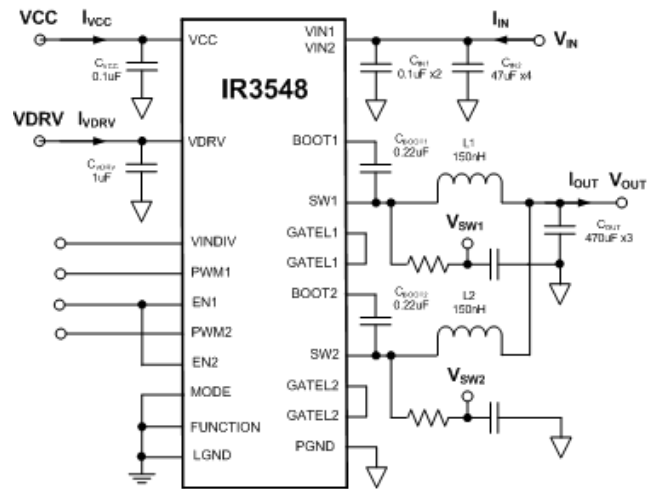

Figure 34: IR3548 Power Loss Measurement
Circuit of Figure 34,  $V_{IN}=12V$ ,  $V_{OUT}=1.2V$ ,  $f_{SW} = 400kHz$ ,  $L=150nH$  (0.29mΩ), Two Phases, Dual Driver, PWM Mode,  $V_{CC}= 5V$ ,  $V_{DRV}=7V$ ,  $T_{AMBIENT} = 25^{\circ}C$ , no heat sink, no air flow, 8-layer PCB board of 3.7”(L) x 2.6”(W), no PWM controller loss, no inductor loss, unless specified otherwise.
Circuit of Figure 34,  $V_{IN}=12V$ ,  $V_{OUT}=1.2V$ ,  $f_{SW} = 400kHz$ ,  $L=150nH$  ( $0.29m\Omega$ ), Two Phases, Dual Driver, PWM Mode,  $V_{CC}= 5V$ ,  $V_{DRV}=7V$ ,  $T_{AMBIENT} = 25^{\circ}C$ , no heat sink, no air flow, 8-layer PCB board of 3.7”(L) x 2.6”(W), no PWM controller loss, no inductor loss, unless specified otherwise.
The two-phase IR3548 efficiency and power loss measurement circuit is shown in Figure 34.